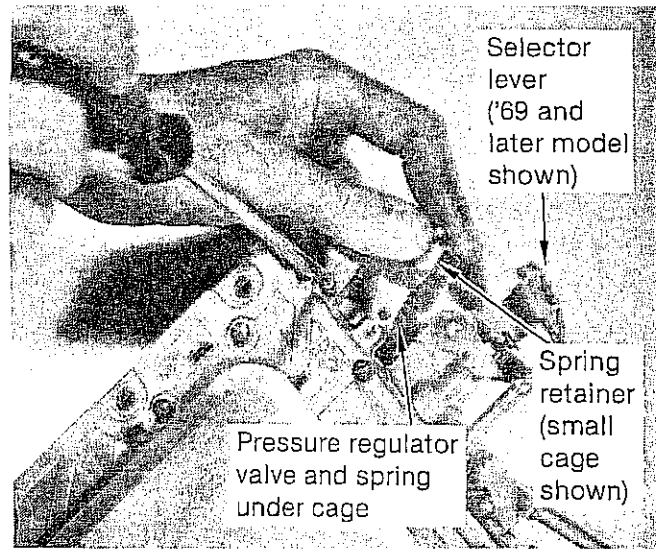
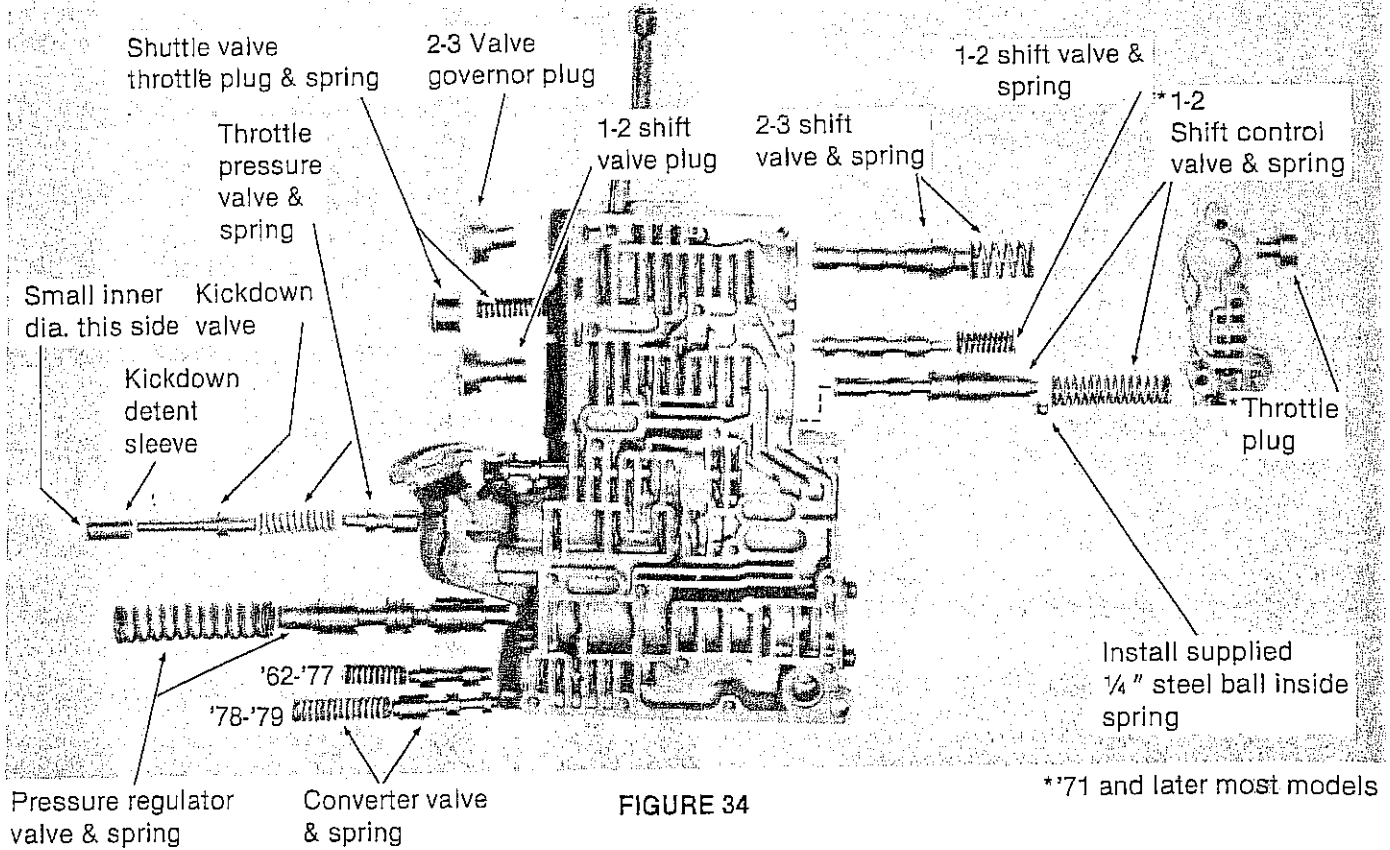

FIGURE 30
FIGURE 34
Now remove the pressure regulator spring retainer located next to the selector lever. (See Fig. 30)
**CAUTION:** Hold your hand against the retainer while removing the last screw (See Fig. 30) so the large pressure regulator spring does not fly out, remove the retainer and adjustment plate, pressure regulator spring and converter valve spring and set them aside. Remove the regulator valve and converter valve and lay
them next to their respective springs. Remove kick-down sleeve and valve, throttle pressure spring, and throttle pressure valve and set aside. (See Fig. 34.)
2. '71 and later (727): Some of these models have a 3-2 downshift and limit valve assembly and end plate. Remove three long screws and remove end plate and housing to expose 1-2 shift valve and spring, 2-3 shift valve and spring and 1-2 shift control valve and spring. Remove each valve and spring and set them aside.
**STEP 6.** Governor Plug End Plate: (See Fig. 34) Remove five short screws that hold the governor plug end plate in place. This will allow you to remove the 1-2 shift valve governor plug, 2-3 shift valve governor plug, shuttle valve throttle plug and shuttle valve spring. Set these valves aside and keep the spring with the shuttle valve throttle plug so it won't be confused. Do not rotate selector lever (See Fig. 30) and lose detent ball and spring. Turn casting over and remove four or six retaining screws holding top plate. Remove top plate for ease of cleaning the casting following drilling operation.
**STEP 9. Assembly-Shift Valves:** (See Fig. 34) Install 1-2 shift valve and spring into its proper bore, install 2-3 shift valve and spring into its bore.
**STEP 10. Governor Plug Valves:** (See Fig. 34) Install 2-3 shift valve governor plug. The valve should install almost flush with surface of casting and move freely
**Track:** Grind the end of the small diameter of the throttle pressure valve so the distance from the end of the nearest large diameter to the ground end is 9/32". (See Fig. 34) Use the gage supplied for reference. Install valve into its bore with small diameter facing out. Install either red or green spring supplied with kit, whichever is the correct diameter.
Install the kickdown detent valve last with the small inside diameter facing **Out**. (See Fig. 34) Finally install throttle stop screw assembly finger tight.
**STEP 12. Pressure Regulator and Converter Valves:** (See Fig. 34) Install pressure regulator valve into its bore. Install converter valve into its bore. On 1978-'79 models the long machined diameter of the torque converter valve must face **out**. Both valves should move freely and easily. Remove any burrs that may cause stickiness or binding. Set casting aside.
Align transfer plate assembly over casting and hold the two halves together with your hand. Install fourteen screws in place finger tight. (Note: Three long screws are for the filter.) Install pressure regulator spring and converter valve spring in place. (See Fig. 34) Insert pressure regulator adjusting plate into place in retaining cage so Allen head adjusting end extends through hole in retaining cage. Adjusting plate is a close fit when properly installed inside the retaining cage. Engage pressure regulator spring with adjusting plate and engage converter valve spring with retaining prong in cage. Hold cage against valve body, align screw holes and install three short screws finger tight. (See Fig. 30)